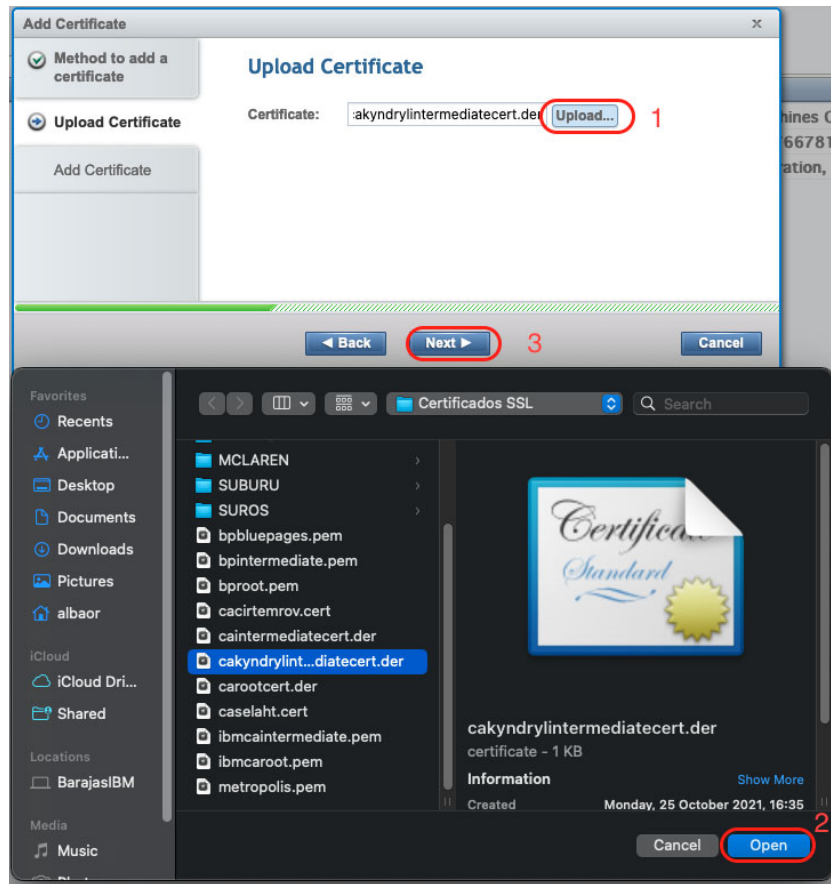

Figure J-6 Selection of SSL certificate file for manual upload
3. Click **Upload** to open a file manager to select the certificate file to be uploaded from your local workstation (the file manager tool that is used depends on your local operating system), as shown in Figure J-6 on page 1037. This file can be a copy of the EKM-PCert or one or more public certificates from the CA chain of trust. Click **Next** when you are ready to upload the certificate file.